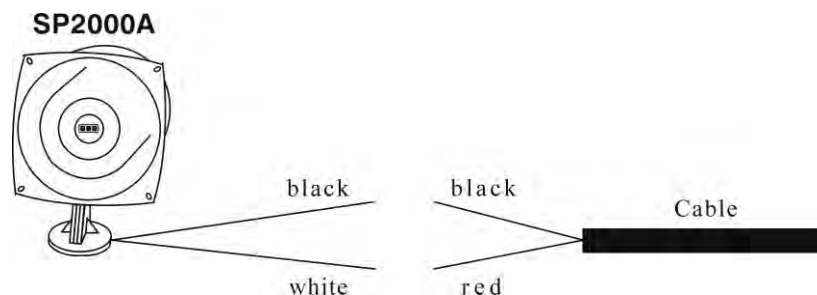

Figure 23. SP2000A cable connection
- Connect the red wire from the appropriate cable to the white SP2000A wire, and the black cable wire to the black SP2000A wire as shown in Figure 23. Do not connect the drain wire.